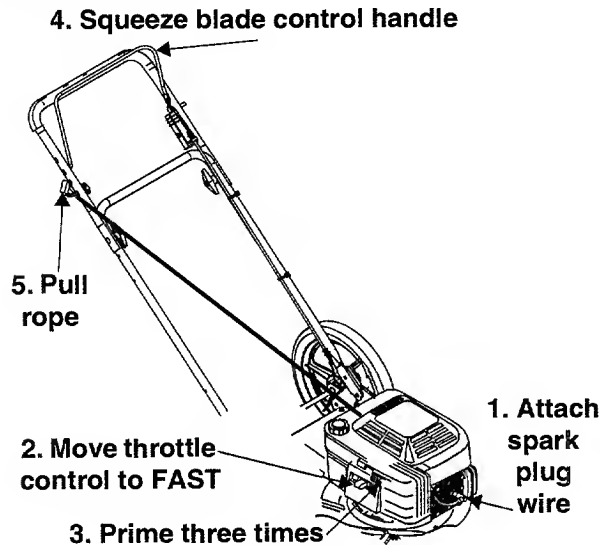

Figure 8
- Push primer three times. See Figure 8. Wait about two seconds between each push. In cold weather around 55° F or below, prime five times. **Do not prime to restart a warm engine** after a short shutdown.
- Grasp starter handle and pull rope out slowly until engine reaches the start of compression cycle (rope will pull slightly harder at this point). See Figure 8. Let the rope rewind slowly.